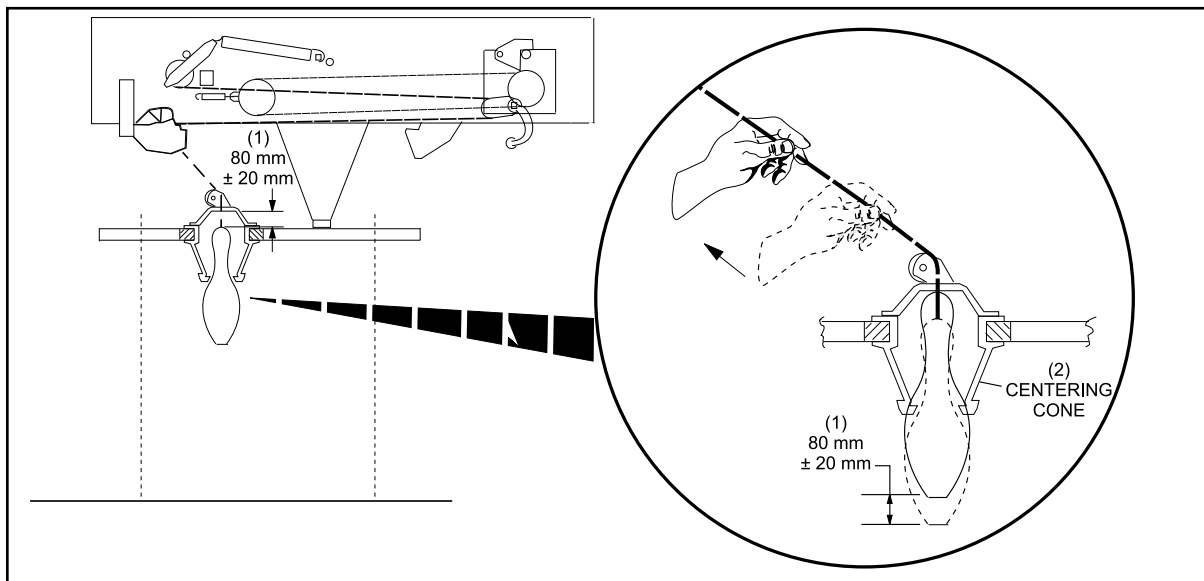

Figure 4-6. String Brake Adjustment
3. Check the movement of a raised pin in the pin centering cone by pulling on its string. The travel distance of the pin should be $80\text{ mm} \pm 20\text{ mm}$. Refer to *Figure 4-6*.